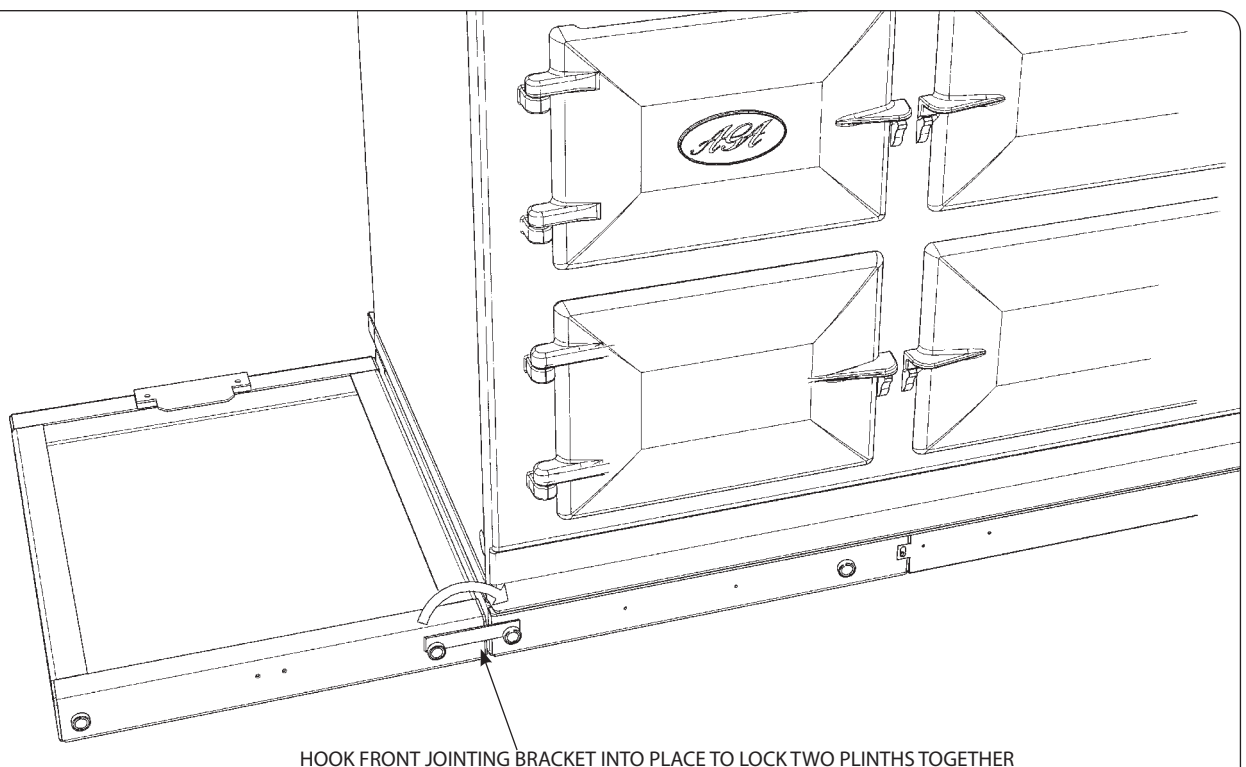

Fig. 17.6
5. Front jointing bracket can now be hooked into place over the two pot magnets. This will latch the two plinths together. (**Fig. 17.6**)